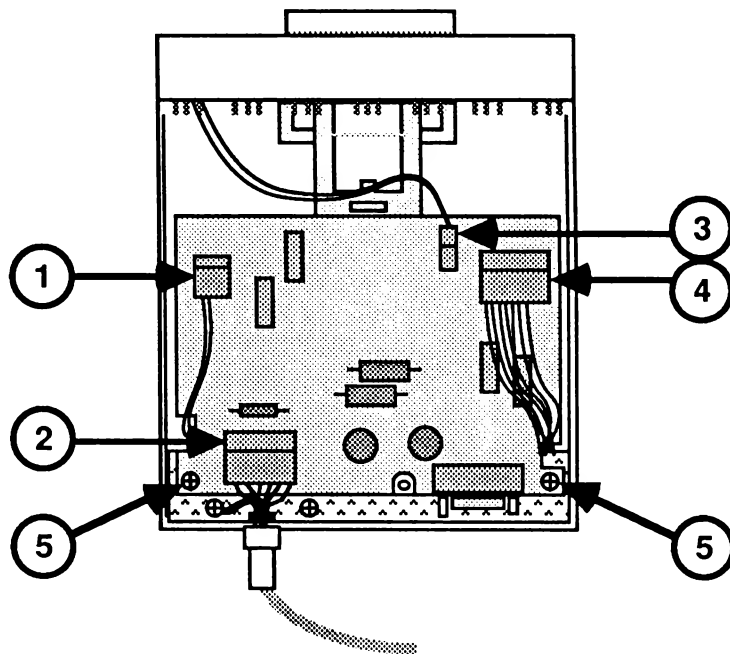

FIGURE 7
- Head connector J4 (Figure 7, #1)
- Bus connector J2 (Figure 7, #2)
- LED connector J5 (Figure 7, #3)
- Stepper motor connector J1 (Figure 7, #4) - note position of wires in Figure 7.
3. Remove the two Phillips screws (Figure 7, #5) that secure the analog board to the chassis.
- Head connector J4 (Figure 7, #1) - fits only one way
- Stepper motor connector J1 (Figure 7, #4) - note position of wires in Figure 7
5. Replace the two Phillips screws (Figure 7, #5) to secure the analog board to the chassis.